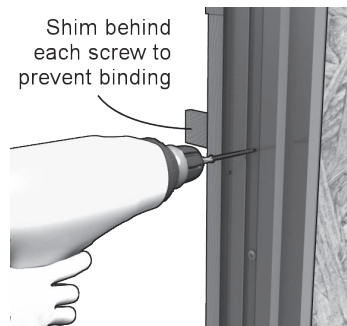

Figure 10
**1j) (Required)** Fastener holes have been pre-drilled in the exterior cladding of the Inswing doors, and on the wood jambs of the Outswing doors. Locate each hole on the side jambs and head and shim behind it to prevent jamb distortion and binding. (figure 10, inswing door shown) Use a provided #8 x 3" wood screws to anchor the jambs and head to the rough opening.